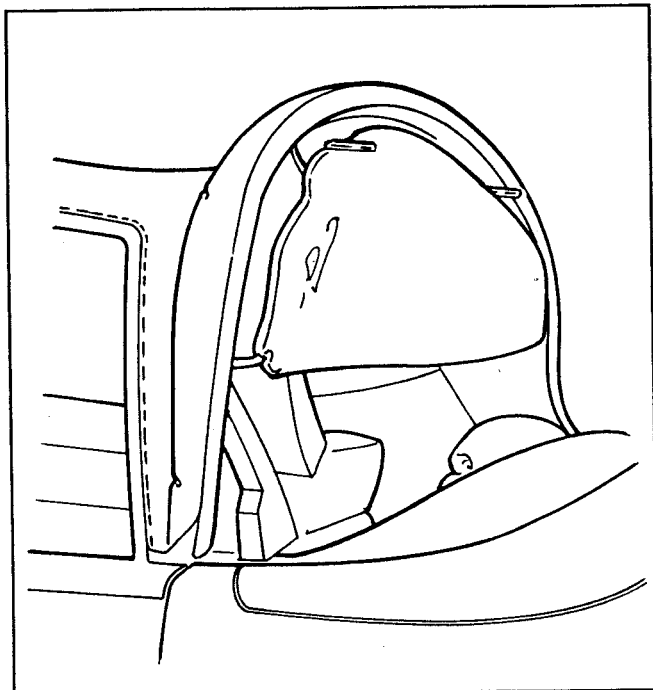

Figure 20. Raise 5-Bow to Vertical
5. Raise the 5-bow 90° (Fig. 20).